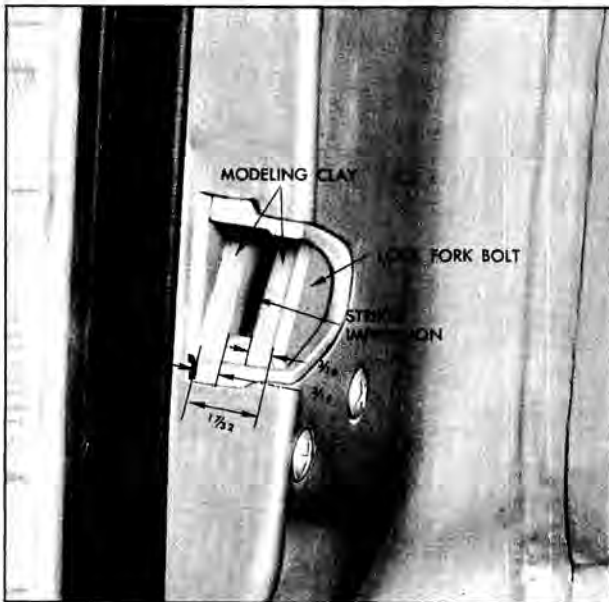

Fig. 16-328 Door Lock Striker Engagement
2. To determine if door lock striker spacers are required, apply modeling clay or body caulking compound in lock where striker engages as shown in Fig. 16-328. Close door to form a measurable impression in clay or caulking compound as depicted in this illustration.
3. The striker head should make an impression in center of clay to be properly aligned fore and aft. As shown in Fig. 16-328, a distance of 3/16" should exist on either side of striker impression. Although 3/16" is the preferred